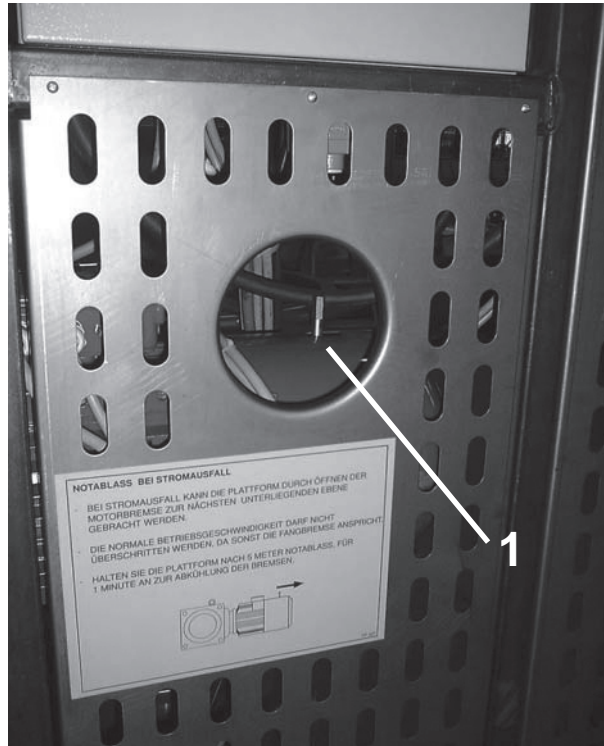

Fig.7-14 Motor brake release lever
1. A lever (fig. 7-14, 1) on the motor can be used to release the motor brake.